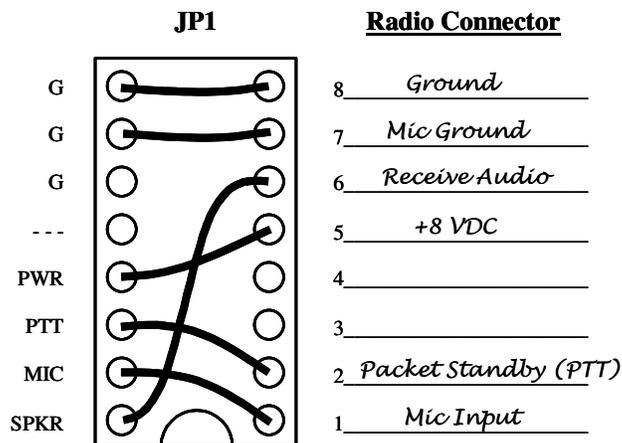

Figure 3 – Example Jumper Wire Diagram for TS-450
- **Draw Jumper Wires** - Once you have verified your pin-out and are comfortable with the results, you are ready to label the lines in Figure-2 and draw in the jumper wires. To do this, you simply need to draw a line between the pins on the left of JP-1 (G, PWR, PTT, Mic & SPKR) and their appropriate match on the right side of the diagram. For example, draw a line between “PWR” pin on the left of JP-1 and the line that you labeled “Accessory Voltage”. The “PTT” pin should be connected to the pin that you labeled “PTT” and so on. If you are installing the SignalLink on a Data or Accessory port, then refer to Figure 1 for the correct signal names. An example of the Jumper Wiring Diagram for a Kenwood TS-450 is shown in Figure 3.